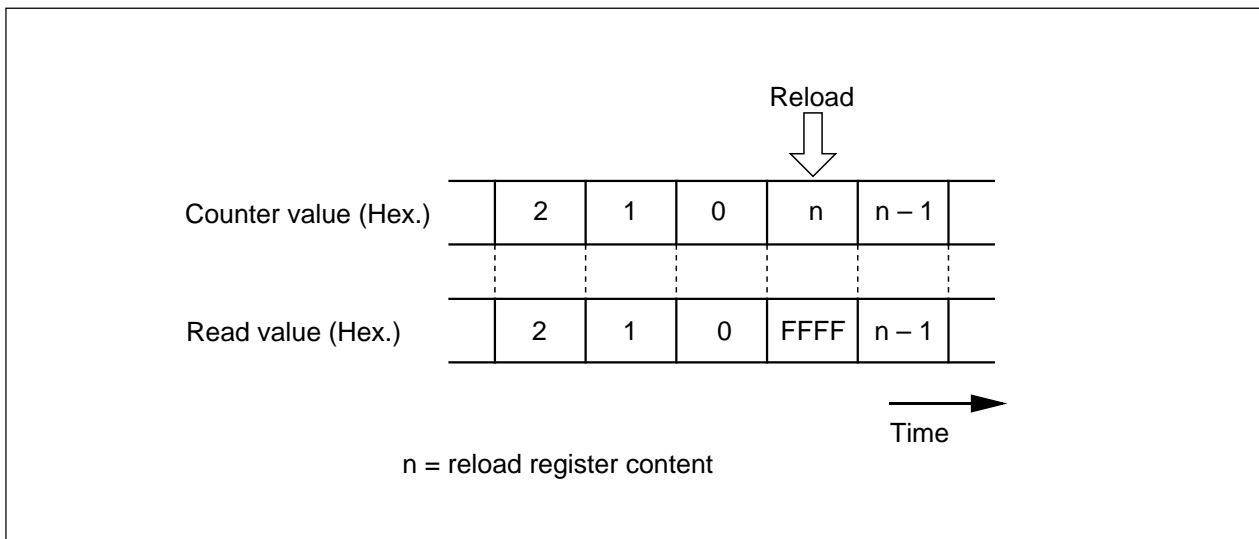

Figure 2.4.24. Reading timer Xi register
- (1) To clear reset, the count start flag is set to "0". Set a value in the timer Xi register, then set the flag to "1".
- (2) Reading the timer Xi register while a count is in progress allows reading, with arbitrary timing, the value of the counter. Reading the timer Xi register with the reload timing shown in Figure 2.4.24 gets "FFFF₁₆". Reading the timer Xi register after setting a value in the timer Xi register with a count halted but before the counter starts counting gets a proper value.